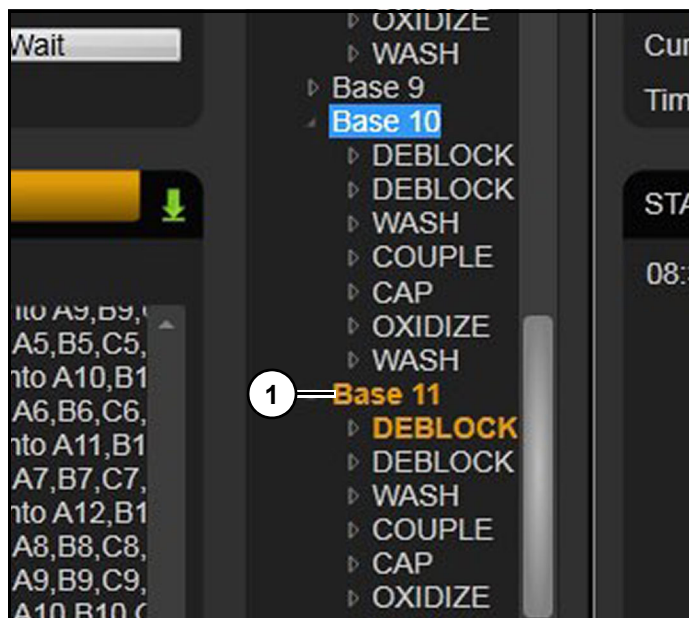

Figure 99
Once a pause is initiated, location of pause will be highlighted orange (1). (Figure 99)